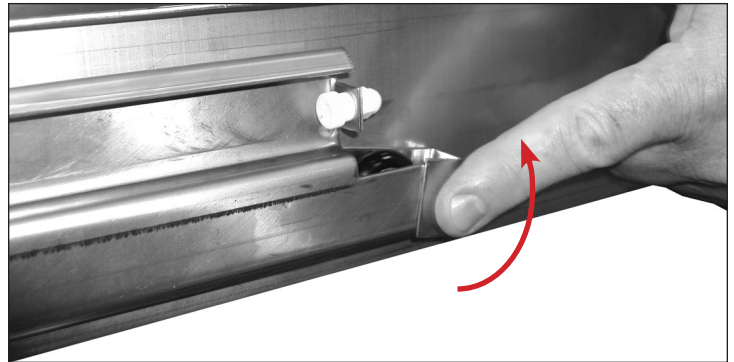

Fig. 3. Rotate the roller clip upward.
1. With the roller clips in the up position (see fig. 3), lower the drawer's rear rollers into the channel slots.